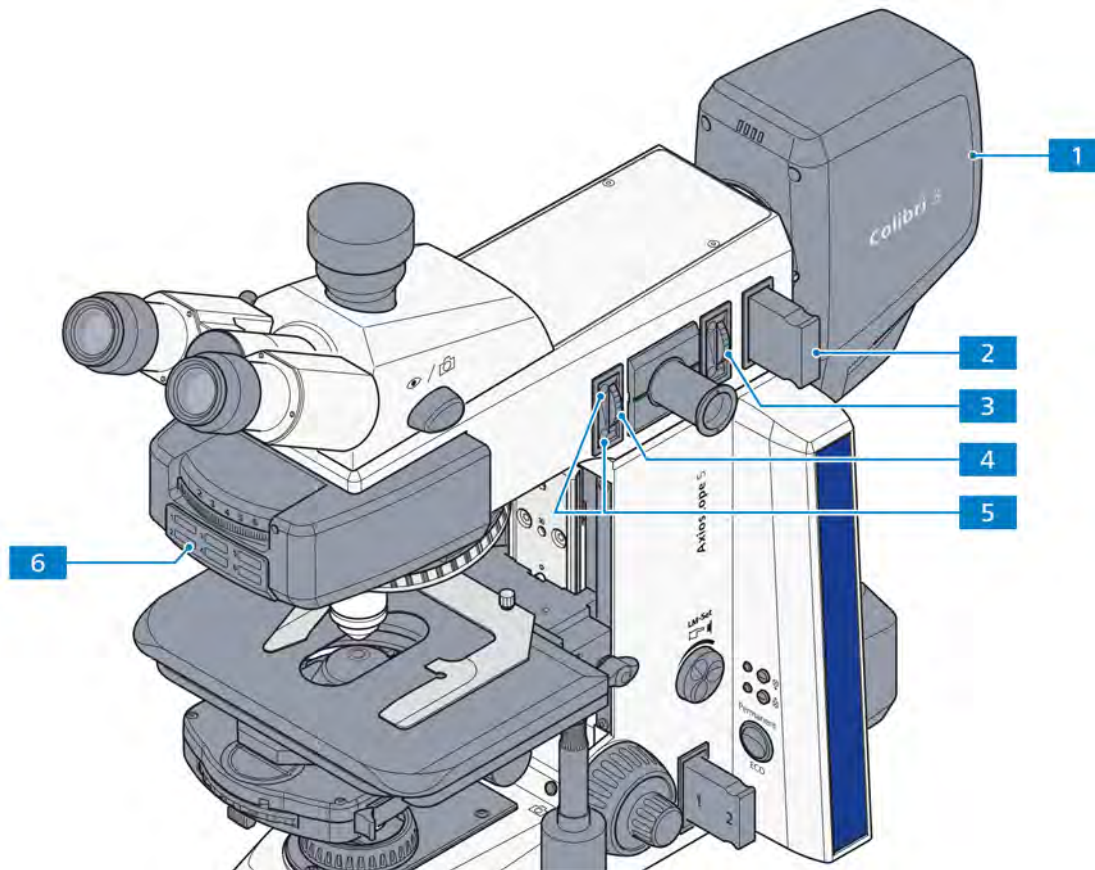

Fig. 4-20 Components for reflected light fluorescence
- Keep the light path in the reflected light illuminator blocked via the blocking position of the filter slider for reflected light (Fig. 4-20/2).
- Switch on the Colibri 3 illuminator by pushing the **RL** button (Fig. 4-20/7).
- Press the **Intensity/LM** button (Fig. 4-20/6) briefly for less than 1.5 seconds repeatedly to activate the required LED module or all LED modules of Colibri 3 together. The indicator light of the respective LED module on the Colibri 3 lights up when this module is switched on.
- On the reflector turret/slider (Fig. 4-20/8), choose the FL P&C reflector module with the desired fluorescence filter combination (depending on the excitation mode) and switch it on.
- Now unblock the light path in the reflected light illuminator with the filter slider for reflected light (Fig. 4-20/2).
- Open the aperture diaphragm (Fig. 4-20/3) enough to see the whole objective exit pupil.
- Replace the eyepiece in the tube and close the field diaphragm (Fig. 4-20/4) enough to make it visible in the field of view.
- Using both centering screws (Fig. 4-20/5), center the field diaphragm on the edge of the field of view.